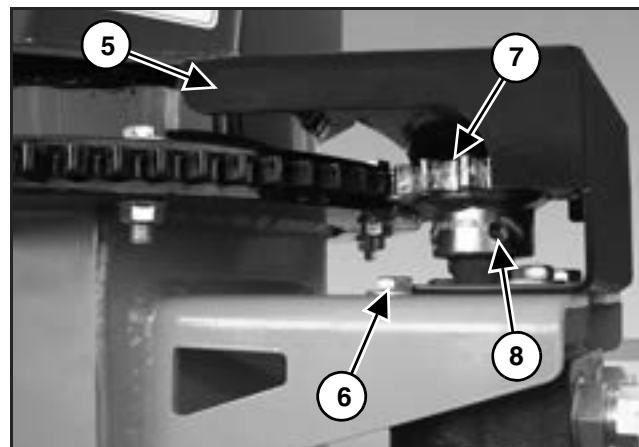

Figure 17
1. Remove the chute rotate gear cover (Item 5) [Figure 17].
4. Loosen motor mount bolts (Item 6) [Figure 17] if needed to move drive gear.
10. Install the chute rotate gear cover (Item 5) [Figure 17].
1. To replace chute rotate drive gear (Item 7), remove chute rotate gear cover (Item 5) [Figure 17].
2. Loosen drive gear set screws (Item 8) and remove drive gear (Item 7) [Figure 17].
4. Install the chute rotate gear cover (Item 5) [Figure 17].